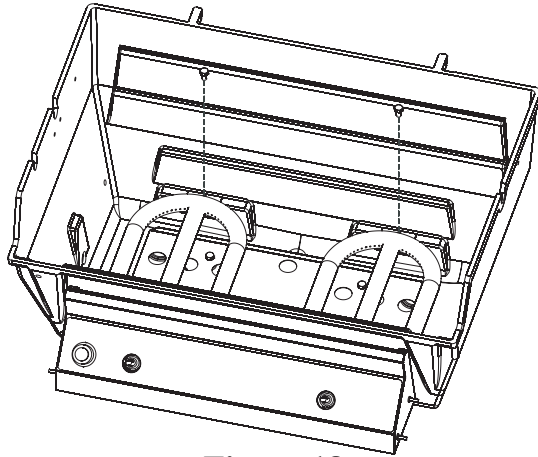

Figure 18
2. Remove burners from grill (one (1) 1/4-20 x 3/4 phillips screw for each burner). See Figure 18.